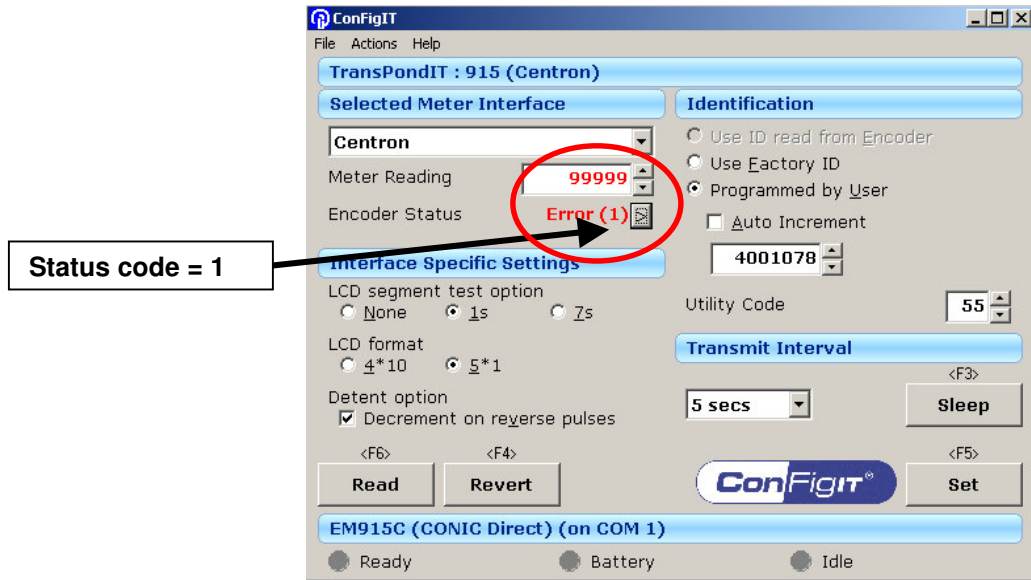

Figure 19: 'Reverse energy flow' reported
- A non-zero status code is highlighted in **red** alongside the word **Error** (see Figure 19).
Figure 19 illustrates an example of the ConFigIT screen with a TransPondIT that has registered a 'reverse energy flow'. The 'Meter Reading' is also highlighted in **red**.